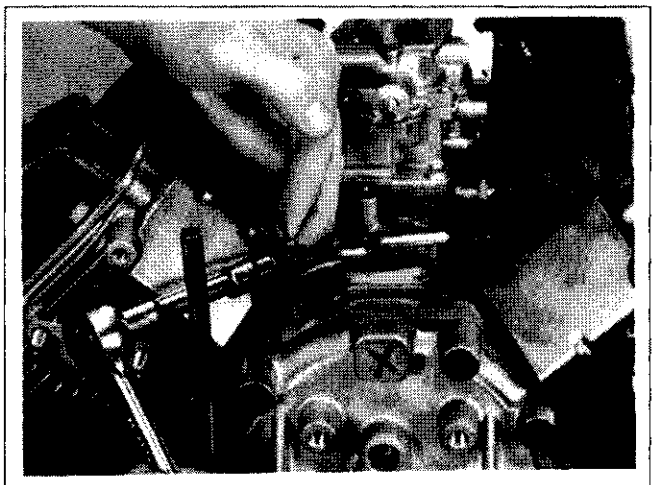

Figure 11-69. Connecting Choke Linkage.
1. Connect the choke linkage to the carburetor and choke actuator lever. See Figure 11-69.